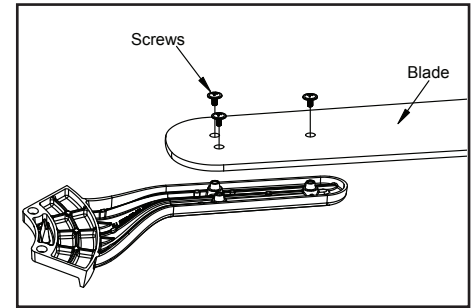

Figure 13
1. Attach blade to blade bracket using the screws as shown in figure 13. Start a screw into the bracket. Repeat for the two remaining screws.